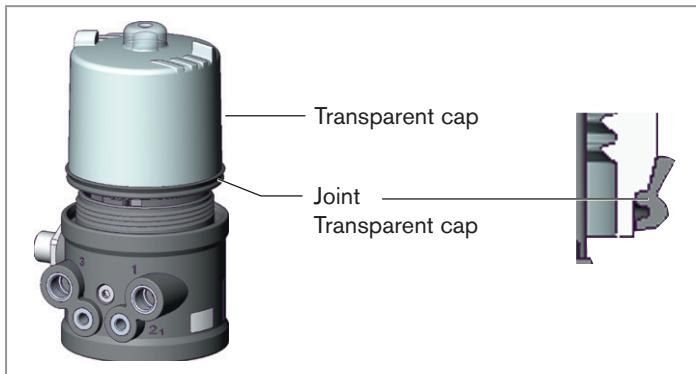

Fig. 18: Position of the seal in the transparent cap
- Check that the seal is correctly positioned in the transparent cap. ("Fig. 18: Position of the seal in the transparent cap", page 23).